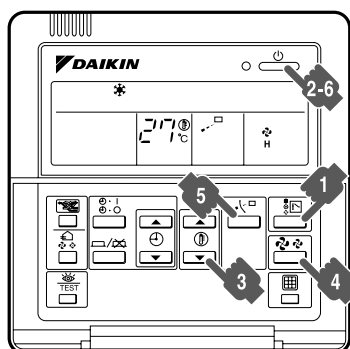

Fig.2
- In contradistinction to actual operating situations, the display on figure 2 shows all possible indications.
ADJUSTMENT (Refer to Fig.2)
STOPPING THE SYSTEM (Refer to Fig.2)